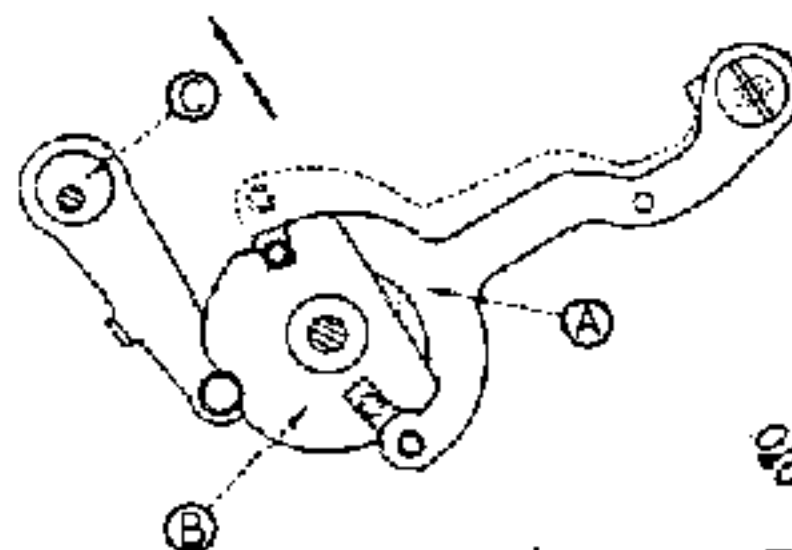

FIG. 1
39. SPLIT CLEAR LOCK MECHANISM: Fig. 1. Dials Locked Position, upper end of Latch A should clear Notch on Slide B .002 to .008. Adjust by Eccentric C.
51. RETURN CLEAR BELL CRANK ASSEMBLY: Fig. 1. Carriage Clear Key depressed, Interlock
Fig. 3. With a Multiplier Key depressed, Interlock Link D should clear under Lip of Interlock Blocking Lever E a minimum of .005. Adjust at F. With Dividend Tabulator Key depressed, Lip on E should clear D a minimum of .005. To obtain more clearance form Lever G rearward, Fig. 1.
62. CENTRALIZER ARM FOR COUNTER REVERSE: Fig. 1. Studs on Reverse Lever A should have equal clearance in both upper and lower slots in Reverse Disc B. Adjust Eccentric C. Fig. 2. In Normal Position Arms of Counter Oscillator A and B should be positioned so Stud in B is engaged in Cam C approximately .030 and Stud in Arm A has .010 clearance. Adjust by forming A and B.
69. CAM FOR DIVISION THROWOUT: Fig. 1. As Point A of Throwout Actuator reaches high point on Roller B, first tooth of Intermittent Gear C should contact tooth of Division Control Gear D, as shown. To adjust, loosen Screw E and rotate Cam F on Shaft G.
76. BLOCKING ARM (EXTRA TRANSFER IN DIVISION): Fig. 1. Machine in Division, Stud A should have approximately .030 bite on Lever B. Adjust at C, and note slight amount of end play in Shaft D for free action. Fig. 2. There should be .010 to .015 clearance between Stud A and Lever B when Cam E is on High Point of Roller F. Adjust by forming at B.
98. ADD-SUBTRACT GATE DELATCH LEVER: Fig. 1. In Normal Position, Trip Lever A should clear end of Delatch Lever B .005 to .015. Adjust by forming Shift Lever at C to allow Trip Lever A to drop back to the desired clearance. Fig. 2. Machine in Dividend Tabulation and Carriage shifting to the right, Trip Lever A should move over lip on Delatch Lever B with no more than .002 to .005 clearance. Adjust by forming Lever B at D.